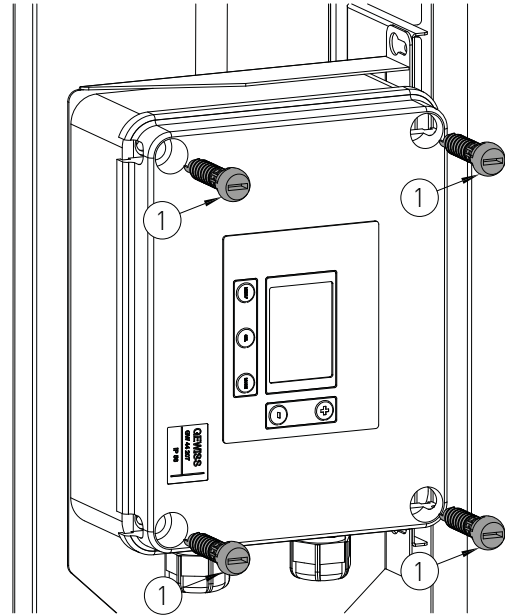

fig. 1
- > unscrew the four fastening screws 1 - fig. 1;